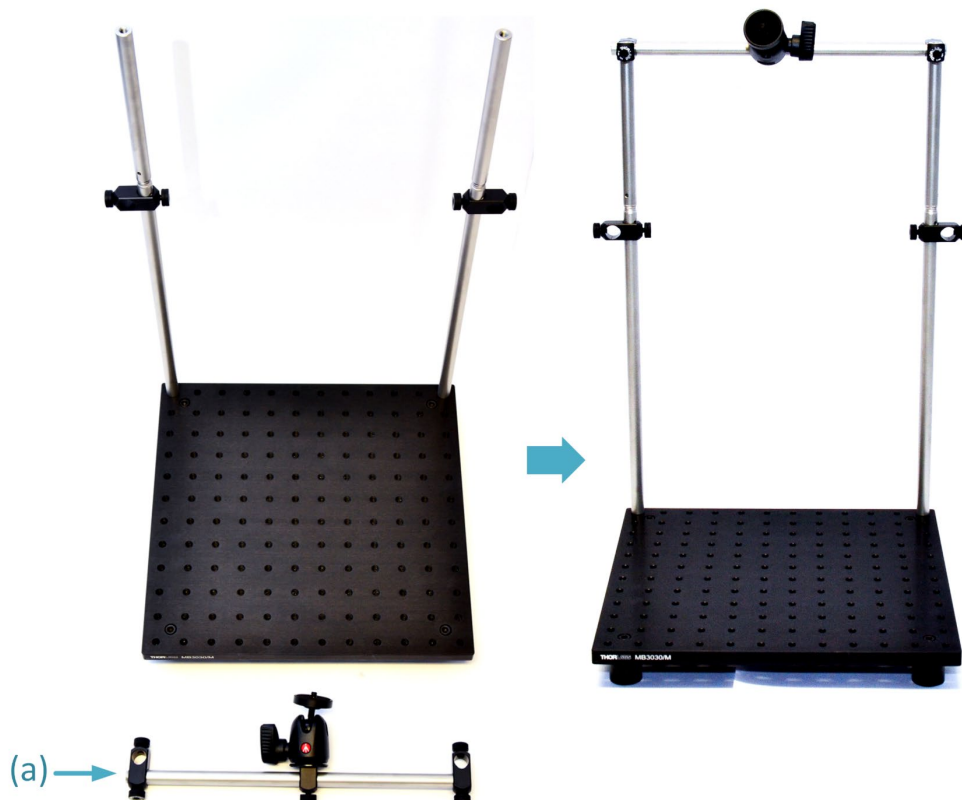

Figure 21 Assembly of top post with tripod head on the vertical posts (Step 3.5)
Step 3.5 Mount the top post on the vertical posts (Figure 21)
- a. Slide the assembled top post (from Step 3.4) on to the vertical posts and fix them on the top edge, as shown in Figure 21.